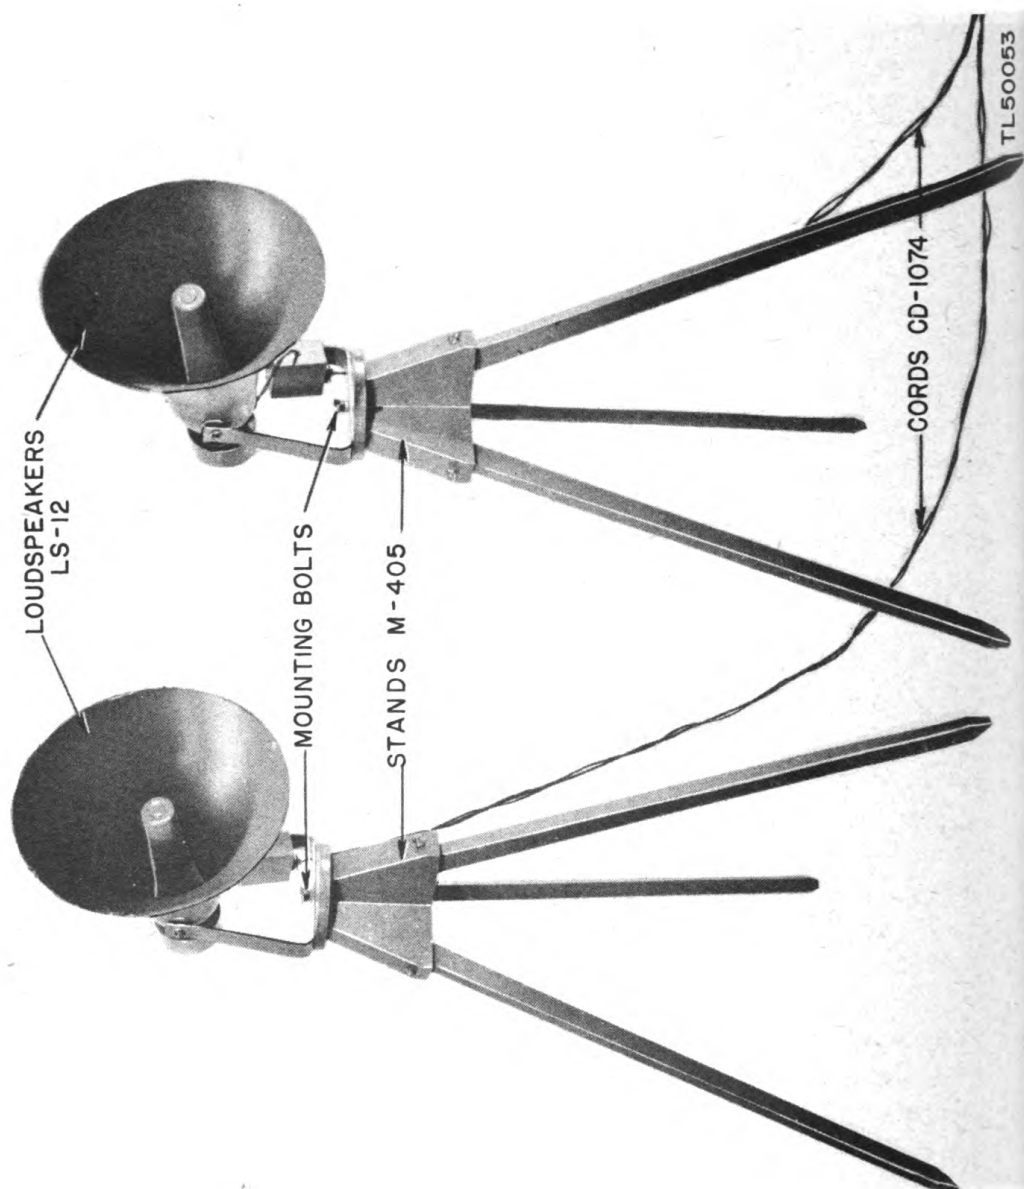

Figure 15. Loudspeakers LS-12 mounted on Stands M-405
- (3) Pull the ends of Cords CD-1074 through the right side of the front panel of Chest CH-229 to the desired length.
- (4) Plug one end of Cords CD-1078 into the front panel of the amplifier. Plug the opposite ends of the cords into Reels RL-55.
- (5) Turn the two stand tops upside down.
- (6) Insert the three stand legs into the three openings provided in each stand top. Tighten the wing nuts provided. Set the stands on their legs and adjust the legs to compensate for uneven ground.
- (7) Place Loudspeakers LS-12-(*) on Stands M-405. Line up the hole on the speaker stand with the hole in the base of the loudspeaker plate attached to the bracket.
- (8) Insert the mounting bolts through the holes and screw on tightly.
- (9) Make certain that the two nuts holding the speakers to the "U" brackets are tight after adjusting the speakers to the desired vertical position.
- (10) Loosen the mounting bolts one-half turn and rotate each speaker to the desired direction. Retighten the mounting bolts.
- (11) Attach each Cord CD-1074 to each Loudspeaker LS-12-(*) by inserting the plugs into the connectors. Twist to the right to lock in place. Figure 15 shows speakers mounted on Stands M-405.
- (12) Proceed as in paragraph 26 *b*, *c*, and *d*, inclusive.